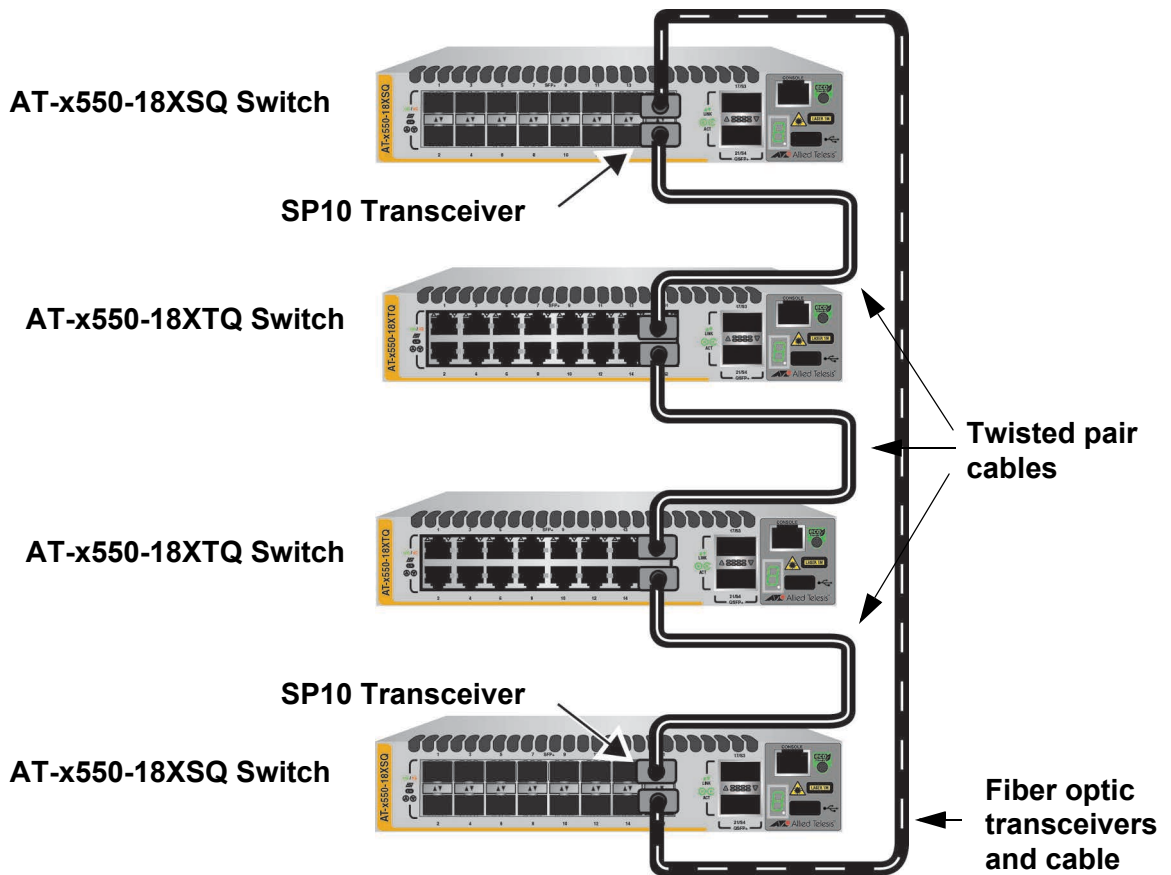
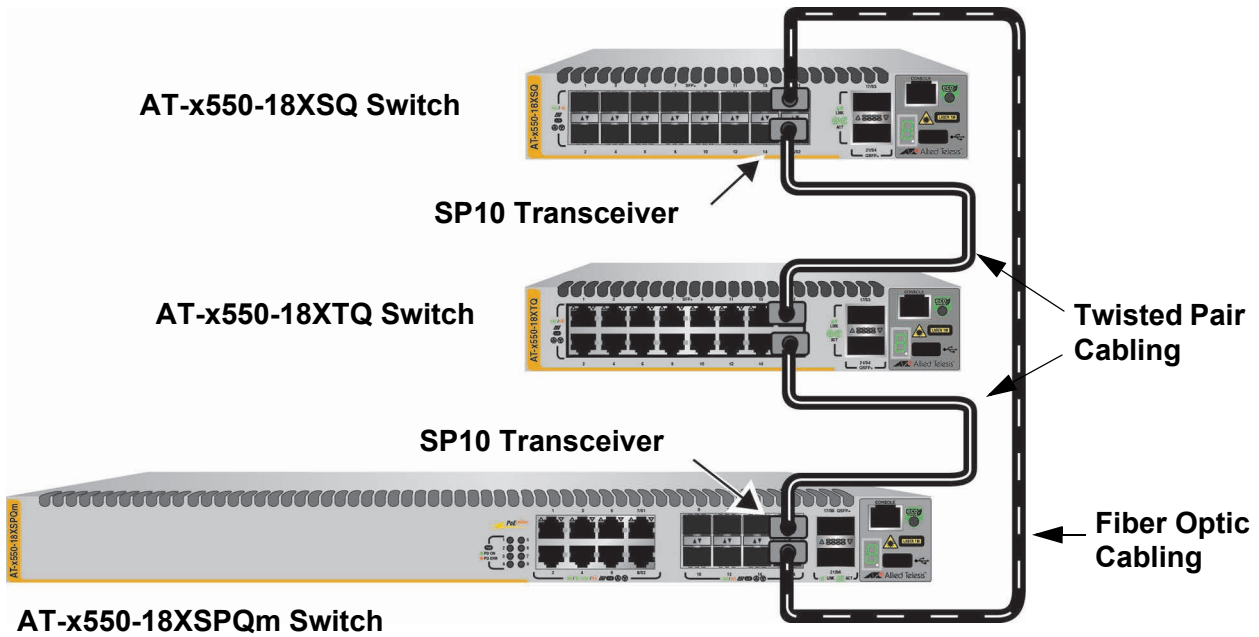

Figure 22. Example of a 10Gbps Stack Trunk for AT-x550-18XTQ and AT-x550-18XSQ Switches with SP10 Transceivers
Figure 23. Example of a 10Gbps Stack Trunk for All Switches with SP10 Transceivers
- Building 10Gbps trunks for stacks that have both AT-x550-18XTQ and AT-x550-18XSQ Switches requires the optional SP10 transceiver. It converts SFP+ transceiver slots into 100Mbps/1Gbps/10Gbps RJ-45 twisted pair ports. You use the transceiver to connect a 10Gbps stacking SFP+ transceiver slot in the AT-x550-18XSQ Switch to a 10Gbps stacking port on the AT-x550-18XTQ Switch. An example of a 10Gbps trunk for a stack with both switches is shown in Figure 22.
- The example in Figure 23 uses SP10 transceivers to build a stack of all three AT-x550 models, with a 10Gbps trunk.
- ❑ If the stack will have both AT-x550-18XTQ and AT-x550-18XSQ Switches with a 10Gbps trunk, have you determined the required number of SP10 transceivers for the trunk? Refer to Figure 22 on page 63 and Figure 23 on page 64.